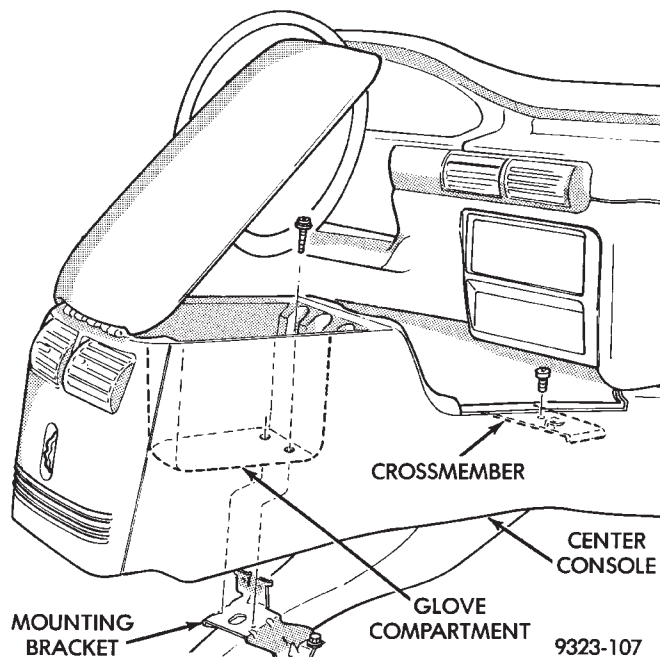

Fig. 54 Center Console
- (1) Remove center console bezel.
- (2) Remove screw holding forward crossmember to floor mounting bracket.
- (3) Remove screws holding bottom of glove compartment to rear mounting bracket (Fig. 54).
- (4) Separate center console from vehicle.